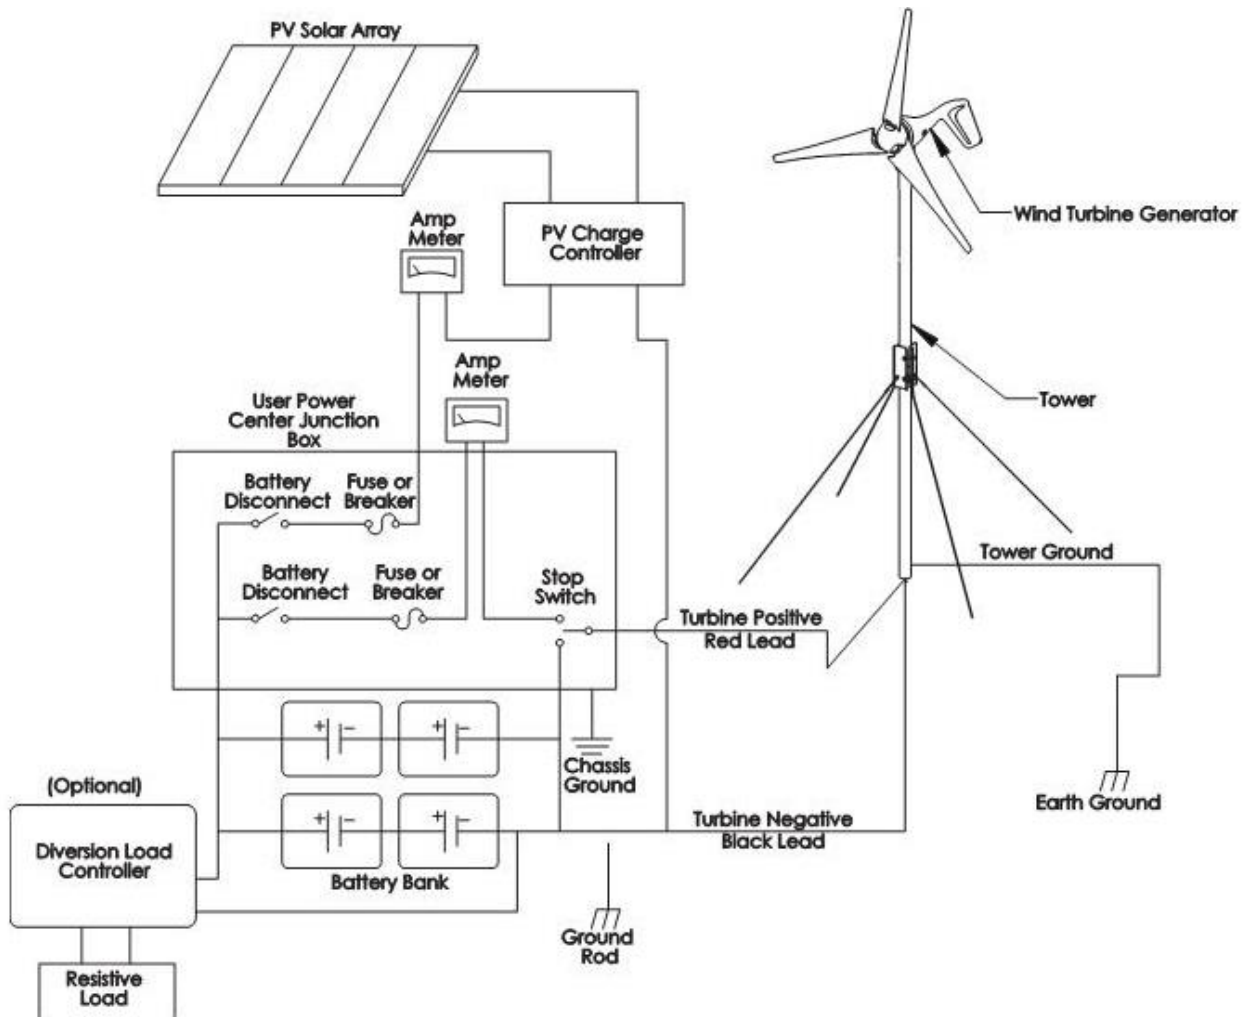

Fig.5 Hybrid System with Solar Panels
Fig.5 represents a typical “hybrid” system with solar panels. Some charging sources (solar panels, fuel-powered generators, additional wind generators, etc.) connected to the same system may cause interference with our wind turbine internal electronic and result in pre-regulation. The interference will not harm the turbine; it will just cause it to spin slowly as if “braked” or it may stop the turbine. If this occurs, test for possible interference by disconnecting the other charging sources to determine the possible
**TIP:** In figure 5, the wind turbine internal regulator is used. A diversion type external regulator could also have been used